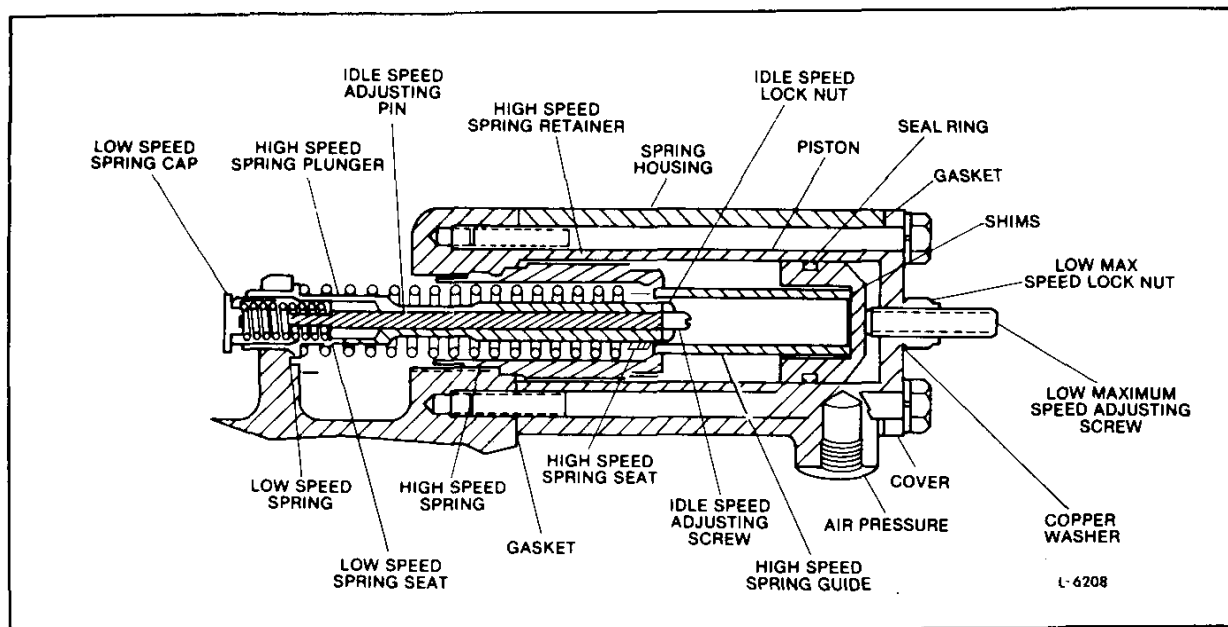

Fig. 6 - Limiting Speed Governor Dual High Speed Feature.
1. Remove the spring housing (Fig. 6).